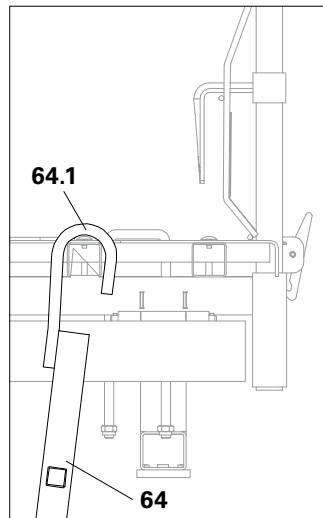

Fig. A7.15
4. Push the hooks (64.1) of the Ladder over the cross beam of the concreting platform. (Fig. A7.15)